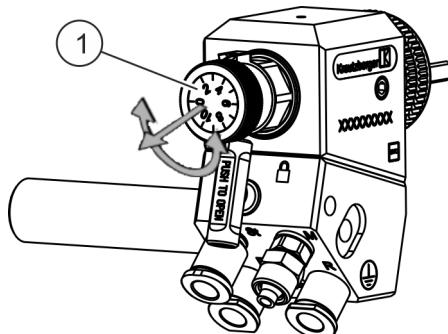

Fig. 9: Adjusting the needle stroke
1. ► Pull out the needle stroke adjustment screw (Fig. 9/1) to unfasten it.
2. ► Adjust the needle stroke by turning the needle stroke adjustment screw (Fig. 9/1).
3. ► Push in the needle stroke adjustment screw (Fig. 9/1) to fasten it again.